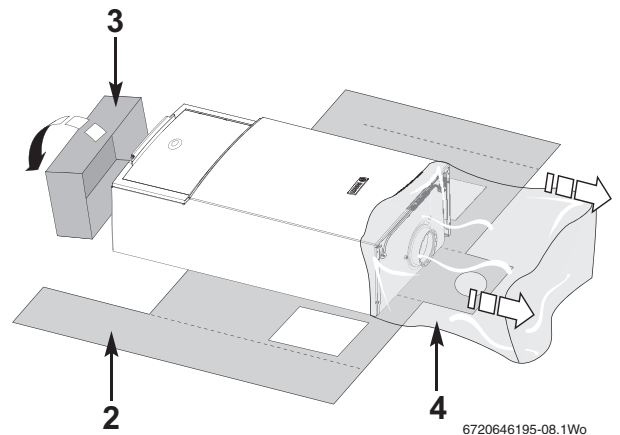

Fig. 23 Remove packaging
- ▶ Remove outer carton (1) and place safely away from the working area.
- ▶ With the outer packaging removed and the inner sleeve (2) still in place gently lay the boiler on its back.
- ▶ The boiler will lie at an angle to the floor to allow the boiler outer casing (5) to be removed.
- ▶ The inner sleeve (2) opens as shown in figure 23.
- ▶ Remove the protective wrapping (4).